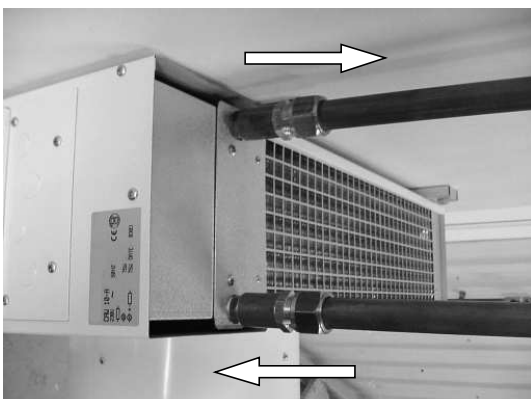

Figure 2
7. Connect the water inlet pipe, with or without valve, to the lower pipe on the fan heater and the outlet pipe to the upper pipe as shown by the arrows in Figure 2. The connection threads on the FHC 10 and 20 are R1/2 (1/2" BSP) and on the FHC 40, R3/4 (3/4" BSP).